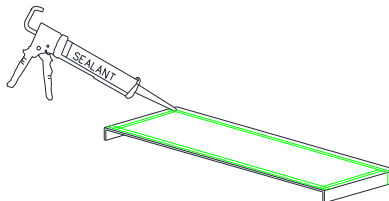

Figure 4:
- With bottom side of sillpan up, apply a 3/8" bead of compatible sealant 1/2" in from interior leg. Sealant bead to run across the bottom as well as up each vertical leg of the sillpan. Also apply sealant beads near the sides and across the front (Figure 4).